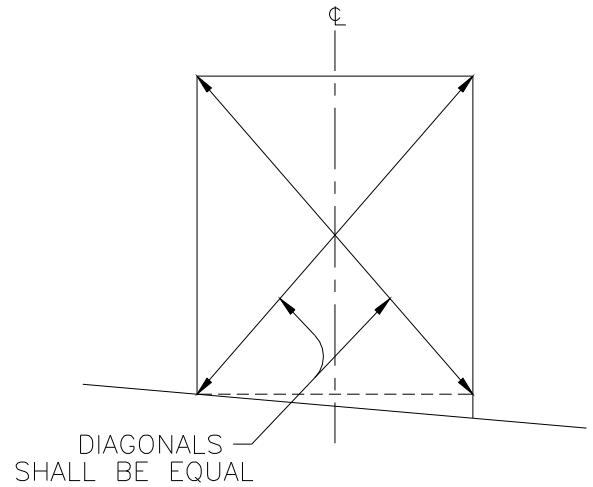

FIG. 1
- **If measurements do not coincide**, see Figures 1, 2, and 3.
- \* **If floor is sloped**, level the floor in and around door opening (Figure 1).